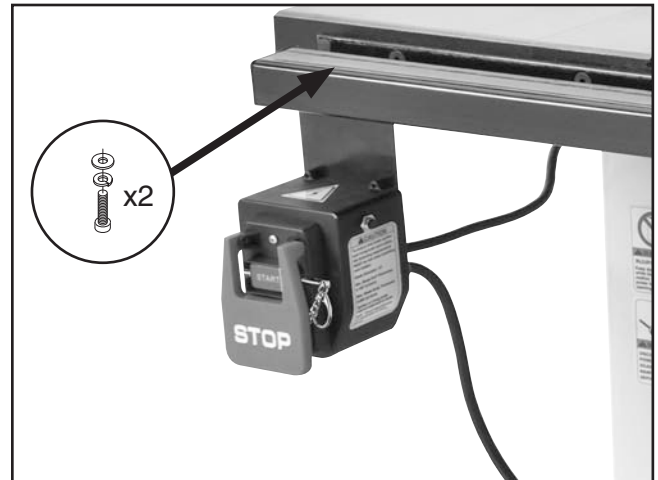

Figure 24. Magnetic switch installed.
23. Attach the magnetic switch to the bottom left-hand side of the front rail using two M5-.8 x 12 cap screws, 5mm lock washers, and 5mm flat washers, as shown in **Figure 24**.